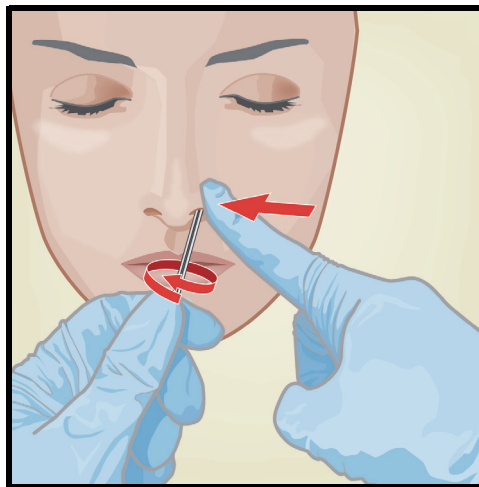

Figure 2. Nasal Swab Collection for First Nostril
1. Insert a nasal swab 1 to 1.5 cm into a nostril. Rotate the swab against the inside of the nostril for 3 seconds while applying pressure with a finger to the outside of the nostril (see Figure 2).